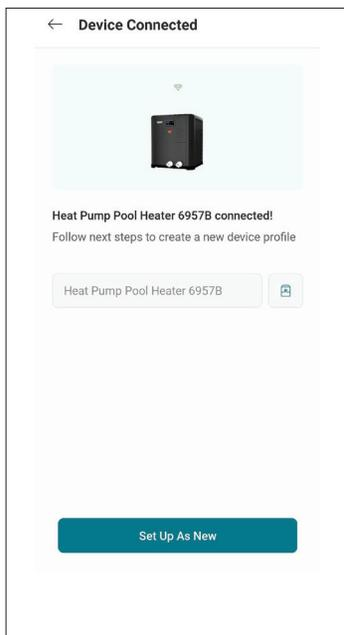

Figure 102. Name Your Unit
10. Your device is now connected to Wi-Fi. You can change the name of your device here. See Figure 102.